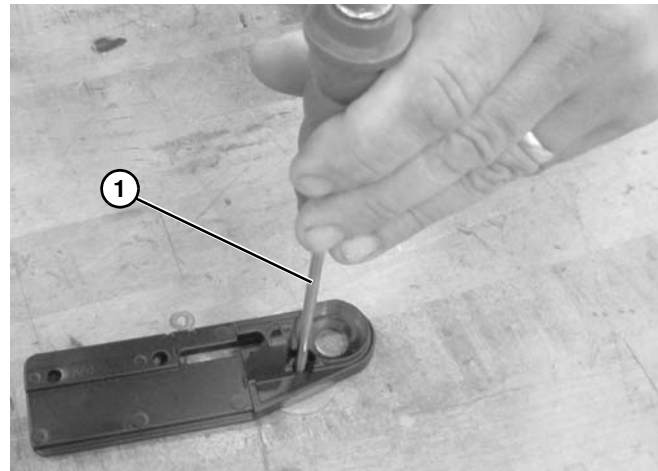
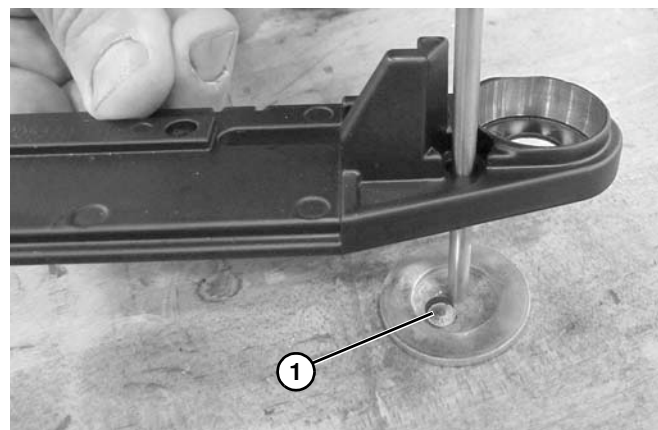

**Figure 93**
**Figure 94**
3. Use a hammer and punch (1/4" - 1/2" dia) (**Figure 93, item 1**) or long bolt to knock out slug (**Figure 94, item 1**) for shaft backing up tail plate with washer.